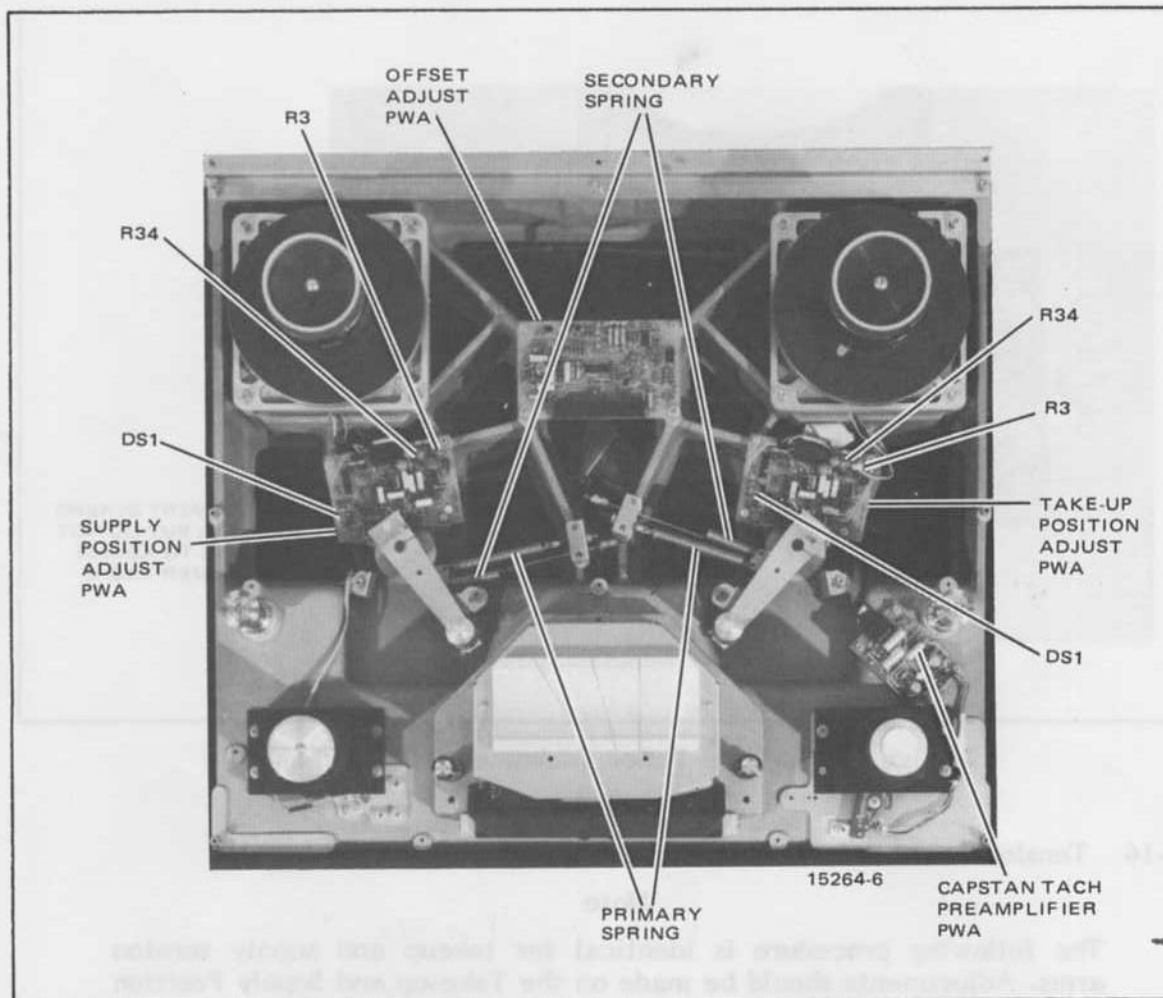

Figure 5-9. Tape Transport Adjust Locations
- STEP 4 Adjust R34 (Figure 5-9) on Position Adjust PWA so that DSI lights.
- STEP 4 Set position adjustment R3 on Position Adjust PWA (a four-turn potentiometer) to midposition (Figure 5-9).
- STEP 1 With the I-core over E-core as in paragraph 5-17 step 7, refer to Figure 5-9; adjust collar on secondary spring so that spring is not extended and collar just contacts anchor plate.